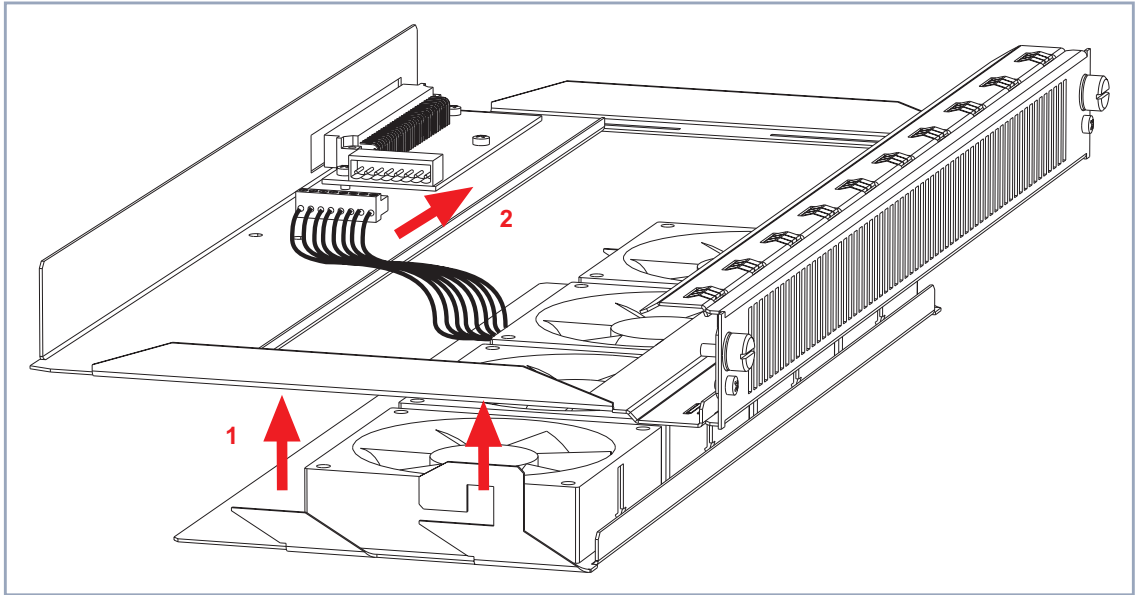

Figure 4-12: Inserting the fan insertion into the fan cassette
- Insert the fan insertion into the fan cassette as shown in figure 4-12, page 49, arrow no. 1.
- Connect the fan insertion plug to the fan cassette as shown in figure 4-12, page 49, arrow no. 2.
- Insert the new fan insertion into the fan cassette as shown in figure 4-12, page 49, arrow no. 1.